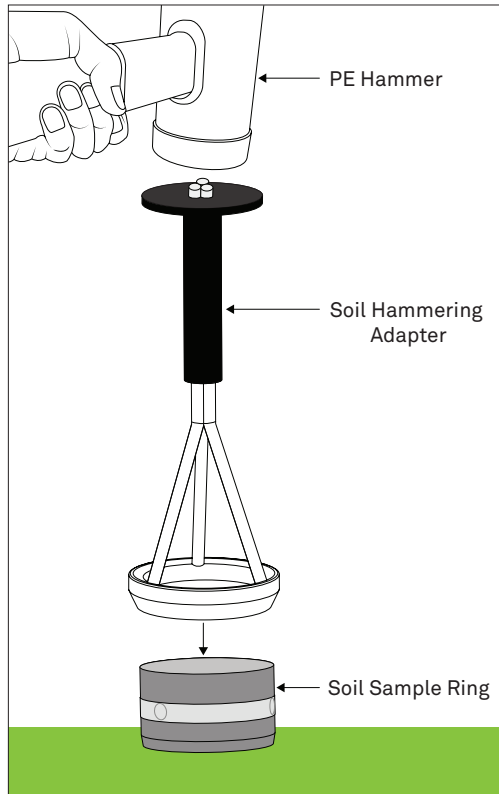

Figure 7 Pound METER hammering adapter with PE hammer to drive soil sample ring into ground
6. Pound on the METER hammering adapter using the recommended PE hammer until the sample ring is completely buried in the soil (Figure 7).